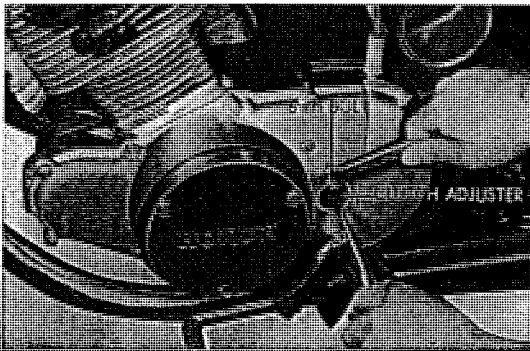

Fig. 6.28 Clutch adjustment
d. If correct adjustment cannot be made by the above, remove the 6 X 45 mm hex-head bolt and turn the clutch adjuster. If turned to the right, the clutch will become loose, and if to the left, tight. (Refer to Fig. 6.28)